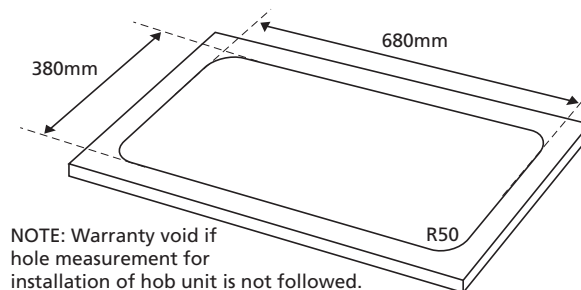

Figure 1
2. Cut the opening 680mm x 380mm (rounded edges with radius R50mm) as shown in figure 1.